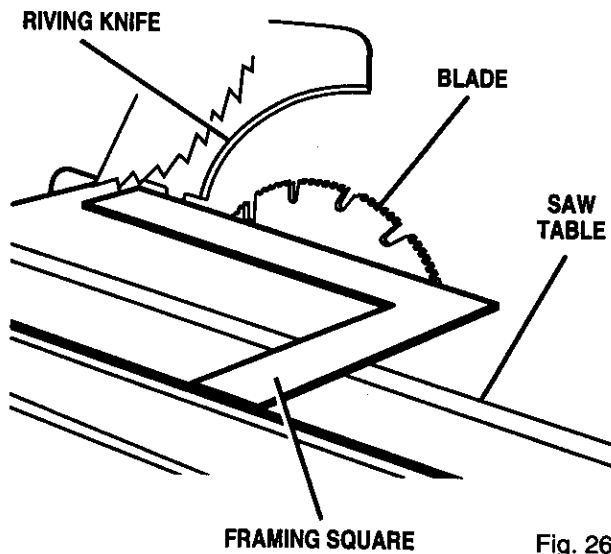

Fig. 26
See Figures 26 – 28.
- Place a framing square or straightedge beside the blade on the left. See Figure 26.